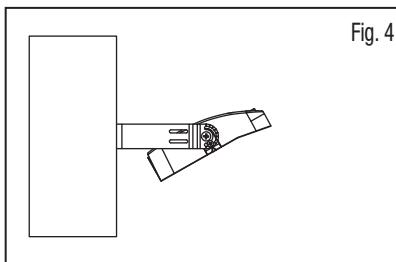

Fig. 4
5. Install / mount yoke to installation surface (Fig. 4).